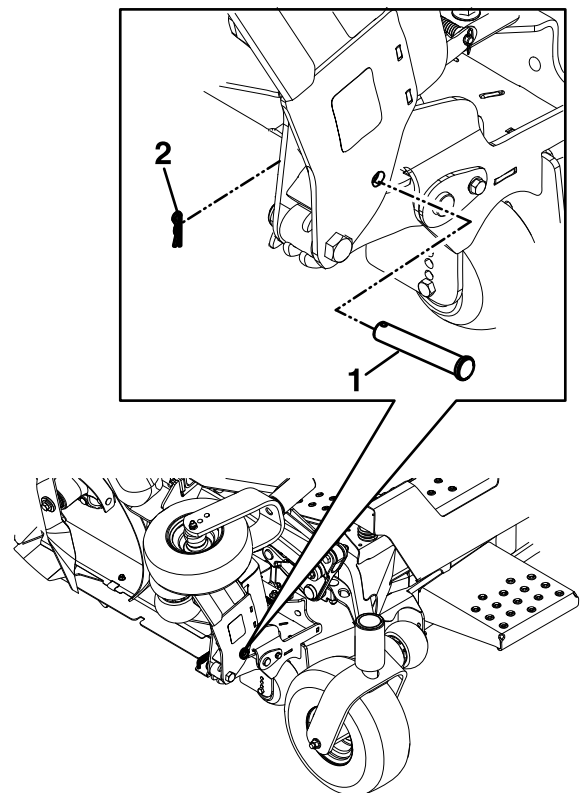

Figure 23
5. Remove the clevis pin and hairpin cotter from the storage location and secure each wing in the upright position (Figure 23).